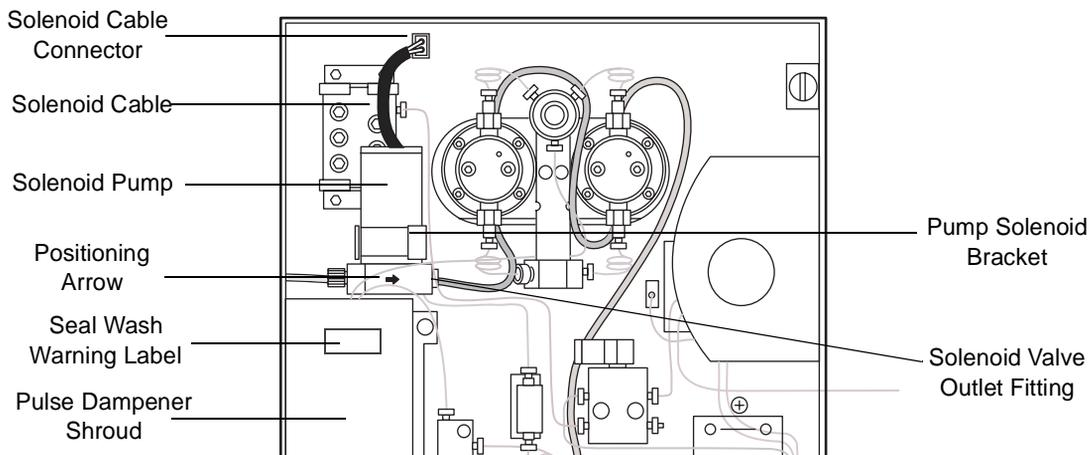

Figure 2-9 Correct Solenoid Positioning
2. Align the solenoid so that the arrow on its base faces forward and points to the right (Figure 2-9). Push the metal body of the solenoid into the bracket until it snaps into position.
5. Plug the solenoid cable into the solenoid cable connector (Figure 2-9).
2. Connect one end of a 3-inch piece of tubing to the solenoid valve outlet fitting (Figure 2-9). Connect the other end to the bottom fitting on the upper-left pump head.